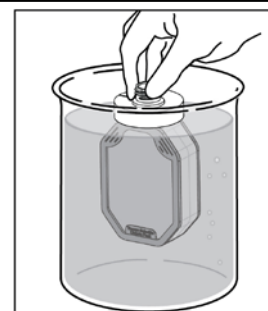

Figure 2. Hydrate membrane.
- Remove cap. Holding the flask at the top of the neck, immerse the flask completely in dialysis buffer for 2 minutes to hydrate the membrane (Figure 2).